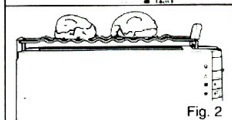

Fig. 2
4. Place the food centrally on the rack - see fig. 2 & 3